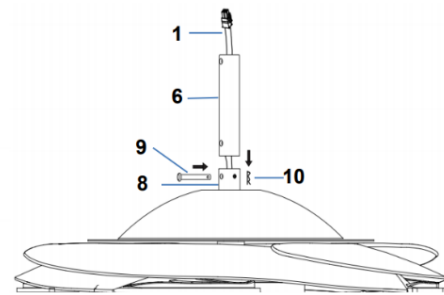

Fig. 4.3
3. Carefully feed the fan wires (1) up through the down rod (6). (Fig. 4.3)
4. Assemble the down rod (6) into the down rod coupling housing (8), by inserting and lining up the down rod coupling housing holes with the down rod holes and insert the hitch pin (9) and secure with the lock clip (10). (Fig. 4.3)